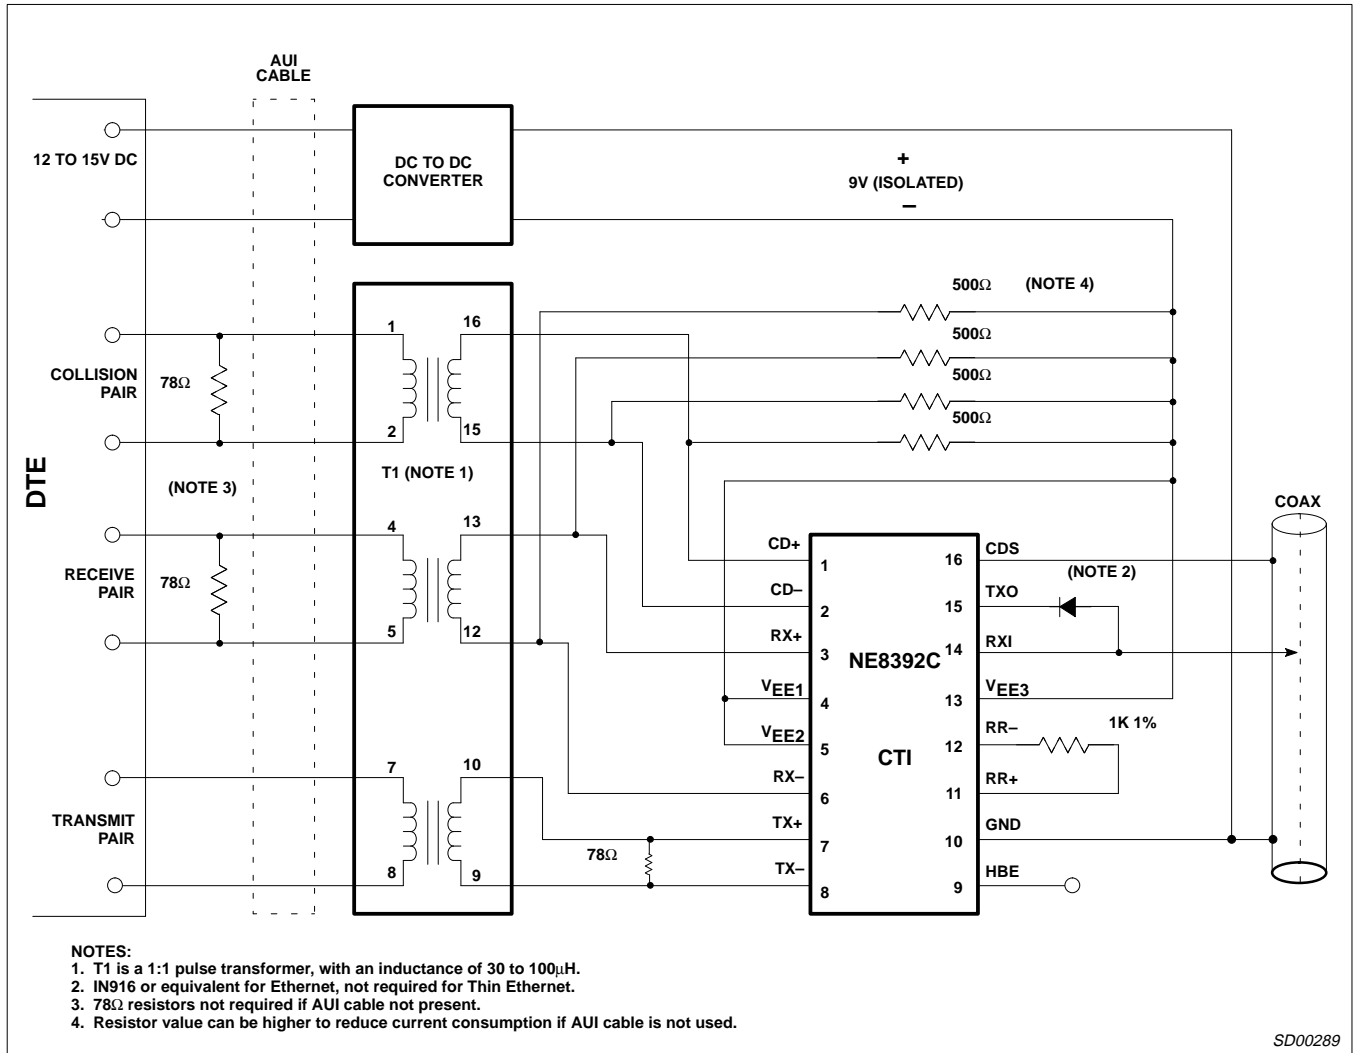

Figure 1. Connection Diagram
6. Measured on secondary side of isolation transformer (see Connection Diagram, Figure 1). The transformer has a 1:1 turns ratio with an inductance between 30 and $100\mu\text{H}$ at 5MHz.
- Measured on secondary side of isolation transformer (see Figure 1, Connection Diagram). The transformer has a 1:1 turn ratio with an inductance between 30 and $100\mu\text{H}$ at 5MHz.